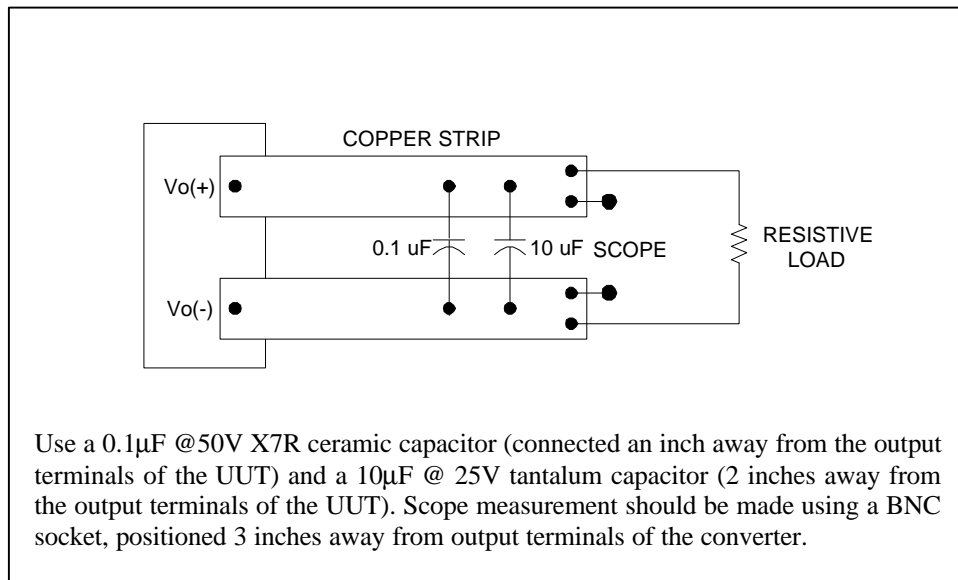

Figure 2. Peak to Peak Output Noise Measurement Setup.
5. Refer to Fig 2 for output ripple measurement setup.